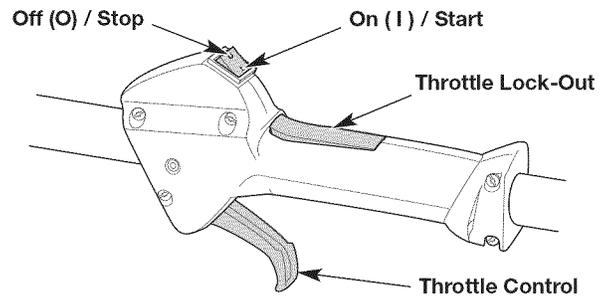

Fig. 9
NOTE: There is no need to turn the unit on. The On/Off switch is in the ON (I) position at all times (Fig. 9).
6. **DO NOT** squeeze the throttle control (Fig. 9). Pull the starter rope with a controlled and steady motion until the unit starts (Fig. 12).
2. Press and hold the On/Off switch in the OFF (O) position until the engine comes to a complete stop (Fig. 9).
6. **DO NOT** squeeze the throttle control (Fig. 9). Insert the Speed Start™ accessory into the Speed Start™ port (Fig. 22). Refer to the *Operation* section of the Speed Start™ accessory operator's manual.